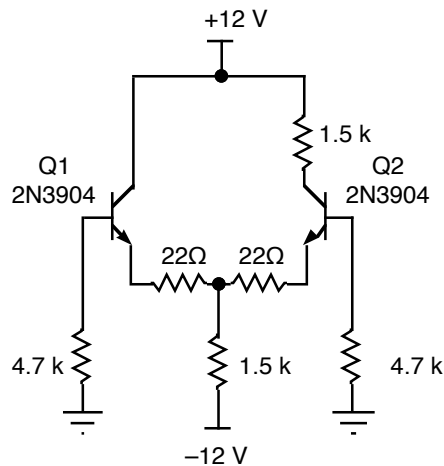

Fig 6.1
a) Calculate the tail current of the circuit in Fig. 6.1 as well as the base currents in each transistor. The $22\ \Omega$ swamping resistors are used to improve the match between the discrete transistors. Use the h_{FE} values of your transistors or assume a value of 200 if you haven't kept them. Build the differential amplifier shown in Fig. 6.1 and compare the measured tail and base currents with the calculated values.